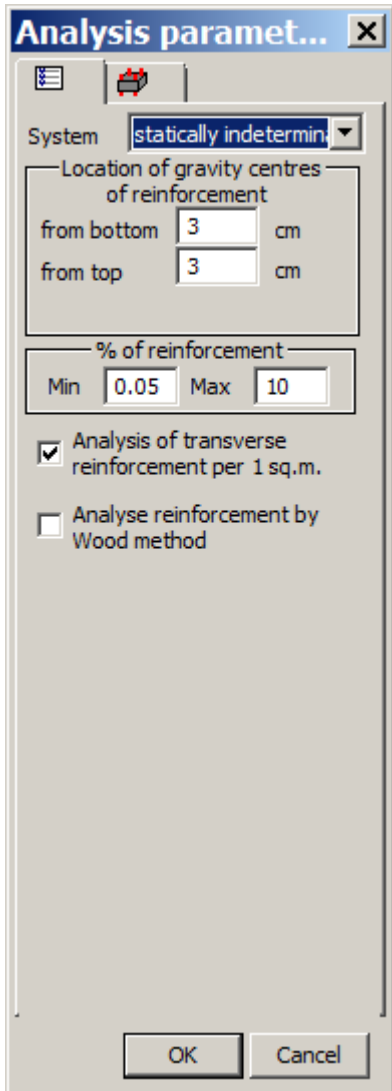

Figure 2.2.2. **Analysis parameters** dialog box
- ⇒ Select the **Analysis parameters** tab (see Fig.2.2.2) and evaluate the data: